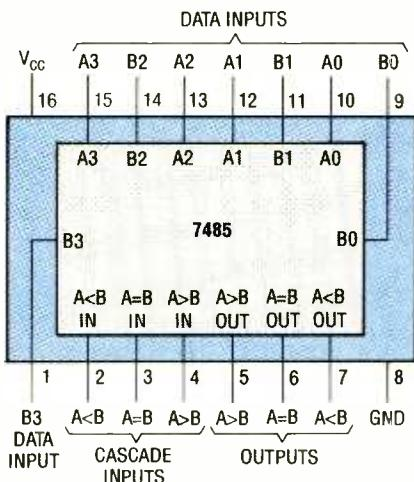

Fig. 3. This pinout diagram of the 7485 with its cascade inputs should give you a feeling of the versatility of the chip.
**4-Bit Magnitude Comparator.** A pinout diagram of the 7485 is shown in Fig. 3. That IC is capable of comparing two 4-bit words in any monotonic code (binary, BCD, etc.) and then generating three outputs: A is greater than B, A is less than B, and A is equal to B. Each